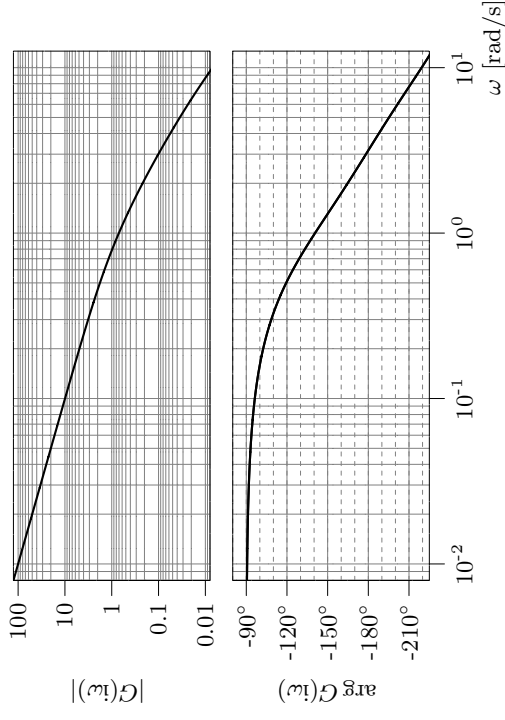

Figure 5.11a
5.11 The Bode plot for a system is given in Figure 5.11a.